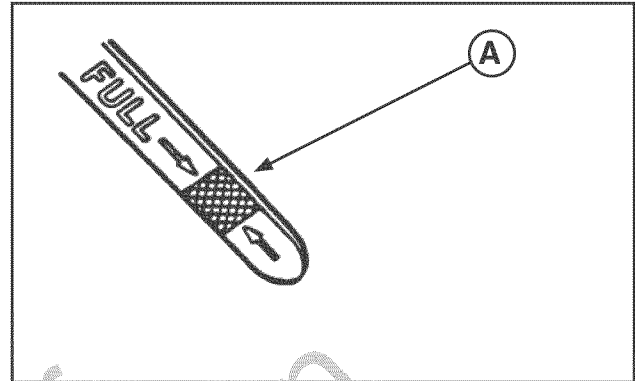

FIGURE 2
3. Check engine oil and add oil as needed to bring level up to the FULL mark (A, Figure 2).